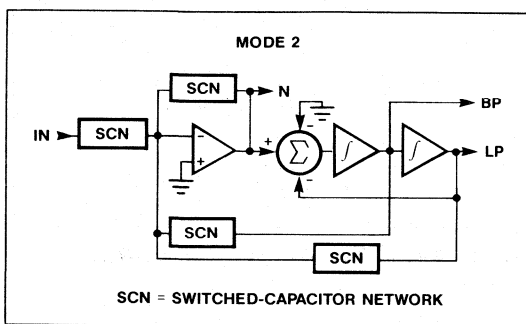

Figure 8. Filter Mode 2: Second-Order Bandpass, Lowpass and Notch
**MODE 2** (Figure 8) is used for all-pole lowpass and bandpass filters. Key advantages compared to Mode 1 are higher available  $Q$ s (See Table 3) and lower output noise. Mode 2's available  $f_{CLK}/f_0$  ratios are  $\sqrt{2}$  less than with Mode 1 (See Table 2) so a wider overall range of  $f_0$ s can be selected from a single clock when both modes are used together. This is demonstrated in the Wide Passband Chebyshev Bandpass design example.